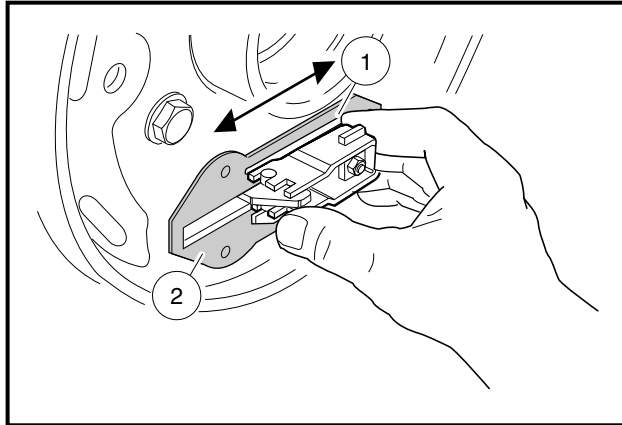

Figure 6-19 Lubricate Slide
3. Lubricate slide (1) and slide plate (2) with dry moly lubricant (CCI P/N 1012151) on both sides of the backing plate. After lubricating, work slide back and forth to ensure it slides smoothly and easily (**Figure 6-19, Page 6-11**). Reinstall rubber boot onto backing plate.